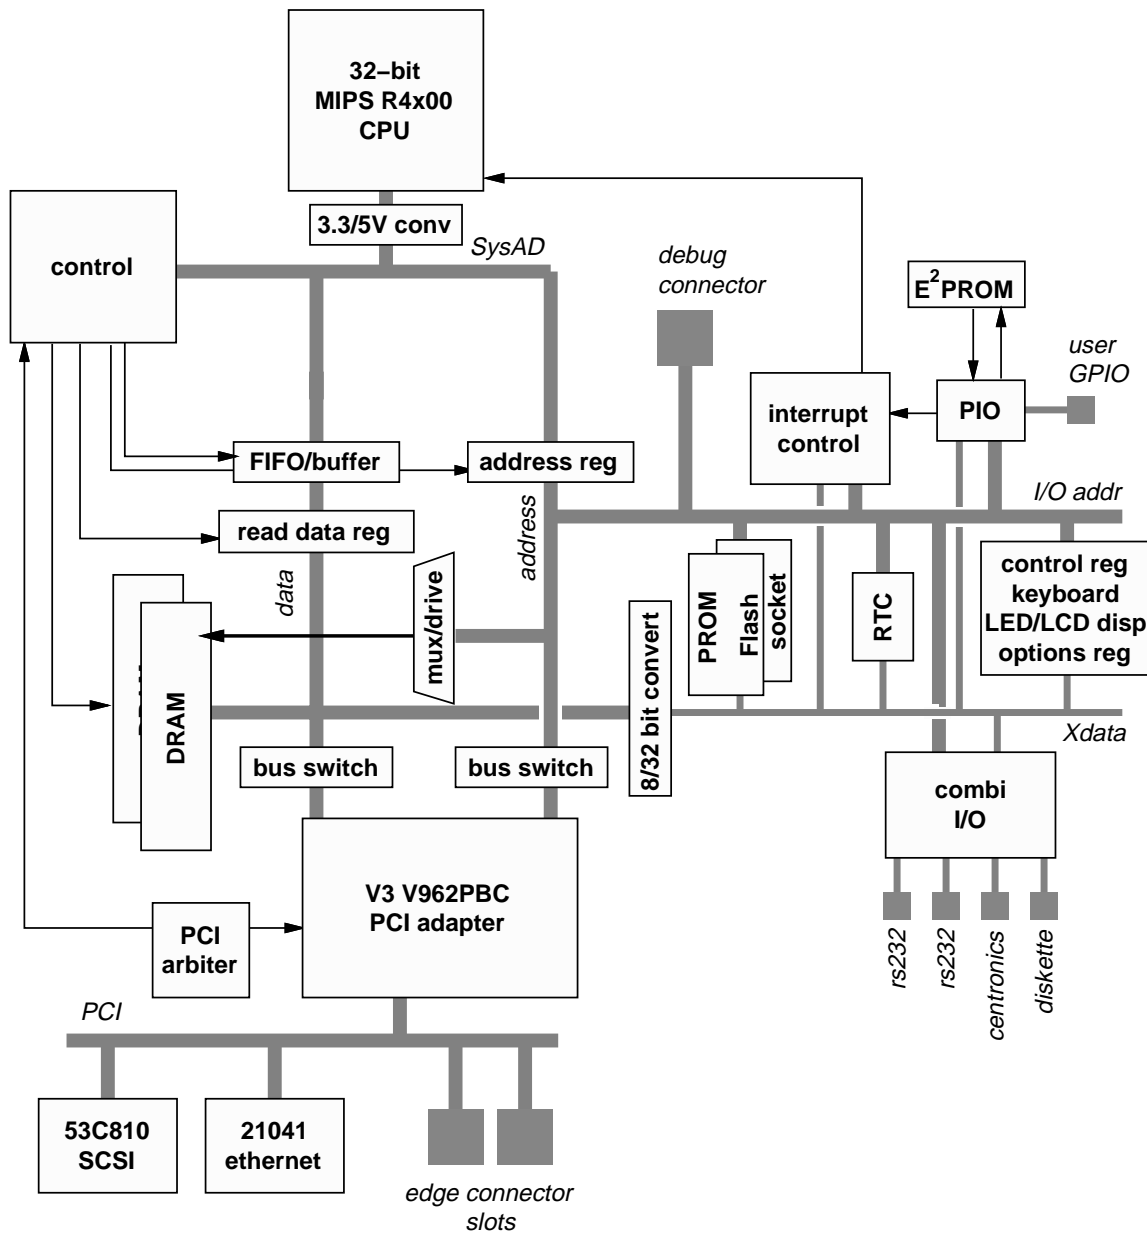

Figure 1.1 P-4032 block diagram
- *Block Diagram*: you'll probably find it helpful to glance at Figure 1.1 on page 9.